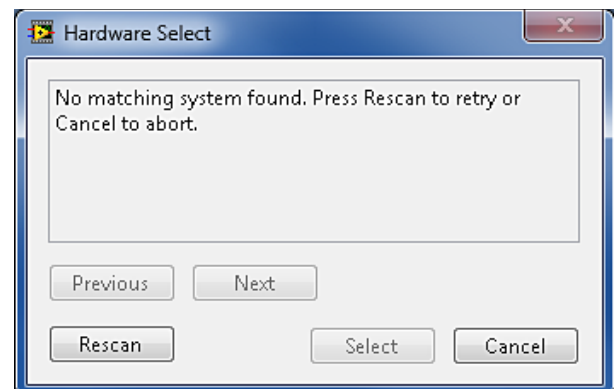

Figure 3. Connectivity Error
2. If the SDP board is not connected to the USB port when the software is launched, a connectivity error displays (see Figure 3). Simply connect the evaluation board to the USB port of the PC, wait a few seconds, click **Rescan**, and follow the instructions.